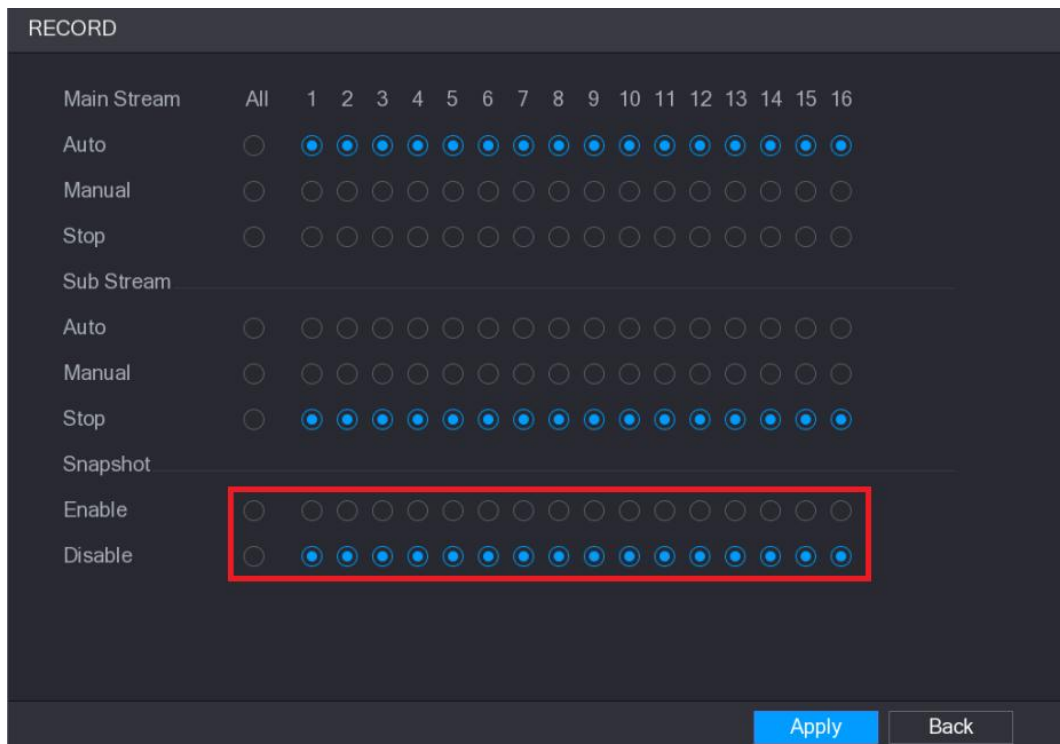

Figure 5-96
Step 3 In the **Snapshot** area, enable the snapshot for the channels if needed. See Figure 5-96.